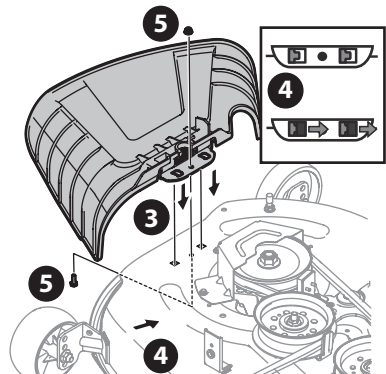

Fig. 9
3. Place the chute deflector on the deck, be sure to insert the tabs on the chute deflector into the holes on the deck (Fig. 9 on page 10).
- Slide the chute deflector toward the rear of the tractor until the bolt hole in the chute deflector aligns with the hole in the deck (Fig. 9).